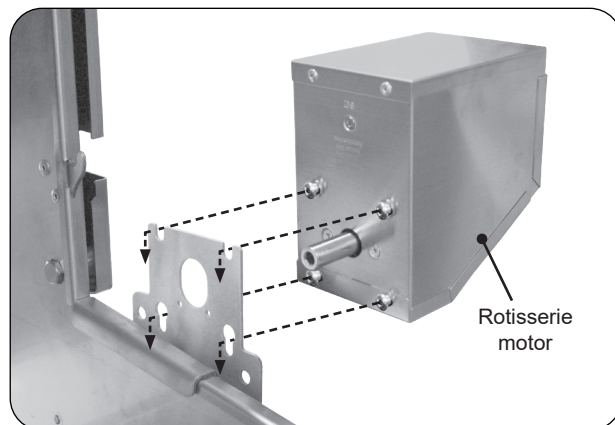

**Fig. 36-1** Prepare grill for rotissing
1. Set the warming rack to storage position, remove the backburner cover and cooking grids (see Fig. 36-1).